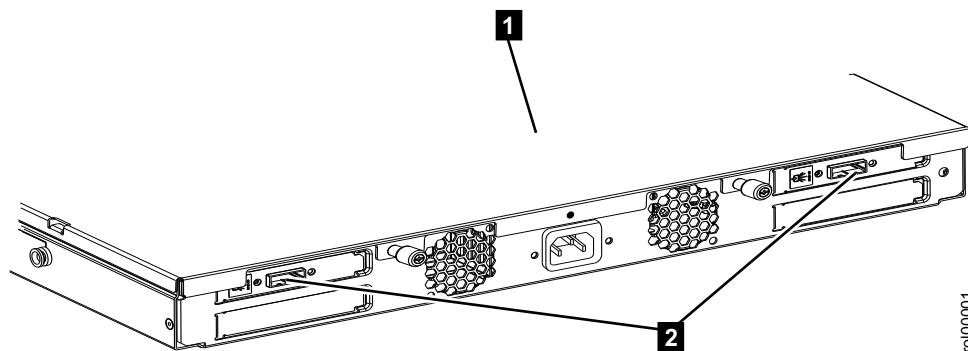

Figure 28. Connecting the SAS Cables to the 1U Rackmount Tape Enclosure
1. There is one SAS cable connector for each drive installed in the 1U Rackmount Tape Enclosure. On the rear of the 1U Rackmount Tape Enclosure (**1** in Figure 28), insert the device connector end of each cable into the cable connector **2**. Route the power cable through the cable management arm as described in Chapter 2, “Installing the 1U Rackmount Tape Enclosure into a Rack,” on page 5.